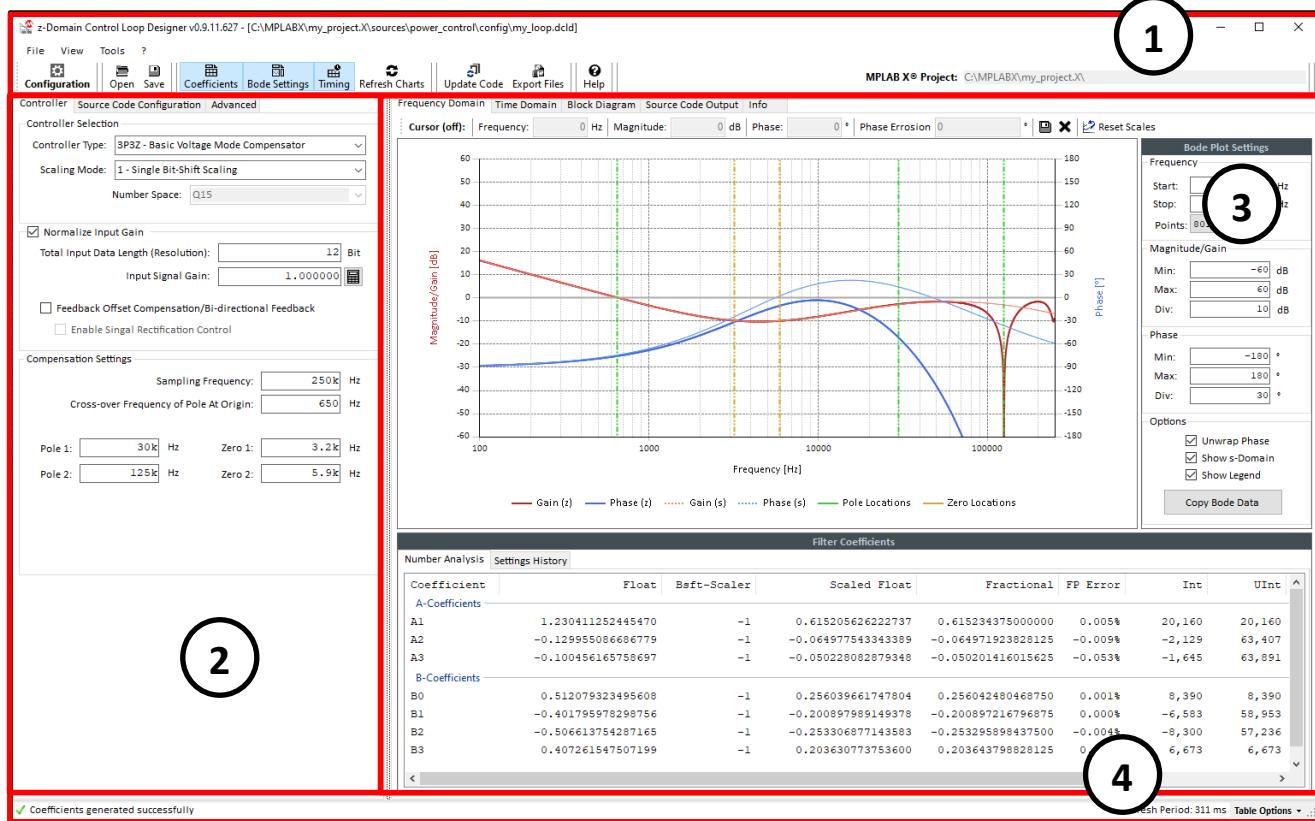

Figure 2: PowerSmart™ Digital Control Library Designer Main Window Overview
The main application window is divided into four sections as shown in Figure 2 below. The graphical user interface (GUI) has been designed following Microsoft Win32 UX Guidelines to make it most intuitive to use. On the top of the window you find menus giving access to files and application functions. A command bar has been added to give quick access to most common functions of the application (1).